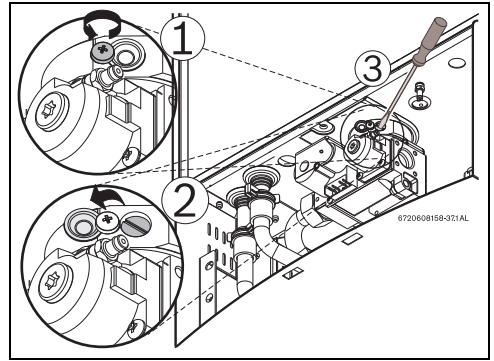

Fig. 74 Adjusting P1 CO2 level
- ▶ Loosen yellow painted Phillips screw (1) and cover should rotate down (2) revealing a recessed brass slotted screw. (fig. 74).